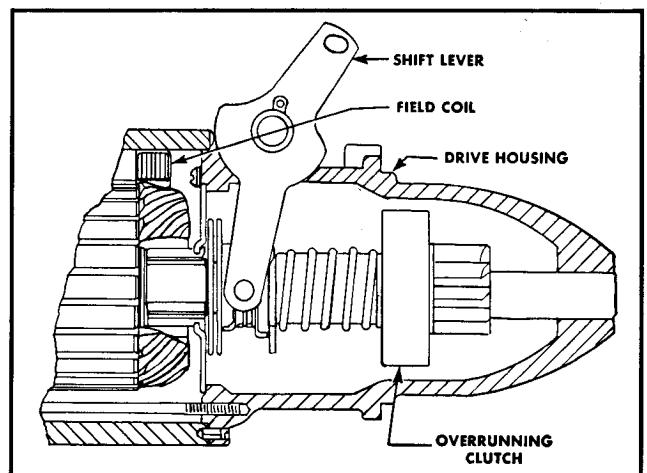

Fig. 11-3. Overrunning clutch drive assembly
2. The overrunning clutch (Fig. 11-3) consists of a shell and sleeve assembly which is splined internally to match splines on the armature shaft. Thus, both the shell and sleeve assembly and armature shaft must turn together. A pinion and collar assembly fits loosely into shell, and the collar is in contact with four hardened steel rollers which are assembled into notches cut in the inner face of the shell. These notches taper inward slightly so that there is less room in the end away from the rollers than in the end where the rollers are. The rollers are spring loaded by small plungers.
3. When the shift lever (Fig. 11-3) is operated, the clutch assembly is moved endwise along the armature shaft so that the pinion meshes with the flywheel ring gear. If the teeth should butt instead of mesh, the clutch spring compresses so that the pinion is spring loaded against the ring-gear teeth. Then, when armature begins to rotate, meshing takes place at once. Completion of the shift lever movement closes the cranking motor switch so that the armature begins to rotate. This rotates the shell and sleeve assembly causing the rollers to jam tightly in the smaller sections of the shell notches. The rollers jam between the pinion collar and the shell so that the pinion is found to rotate with the armature and crank the engine.